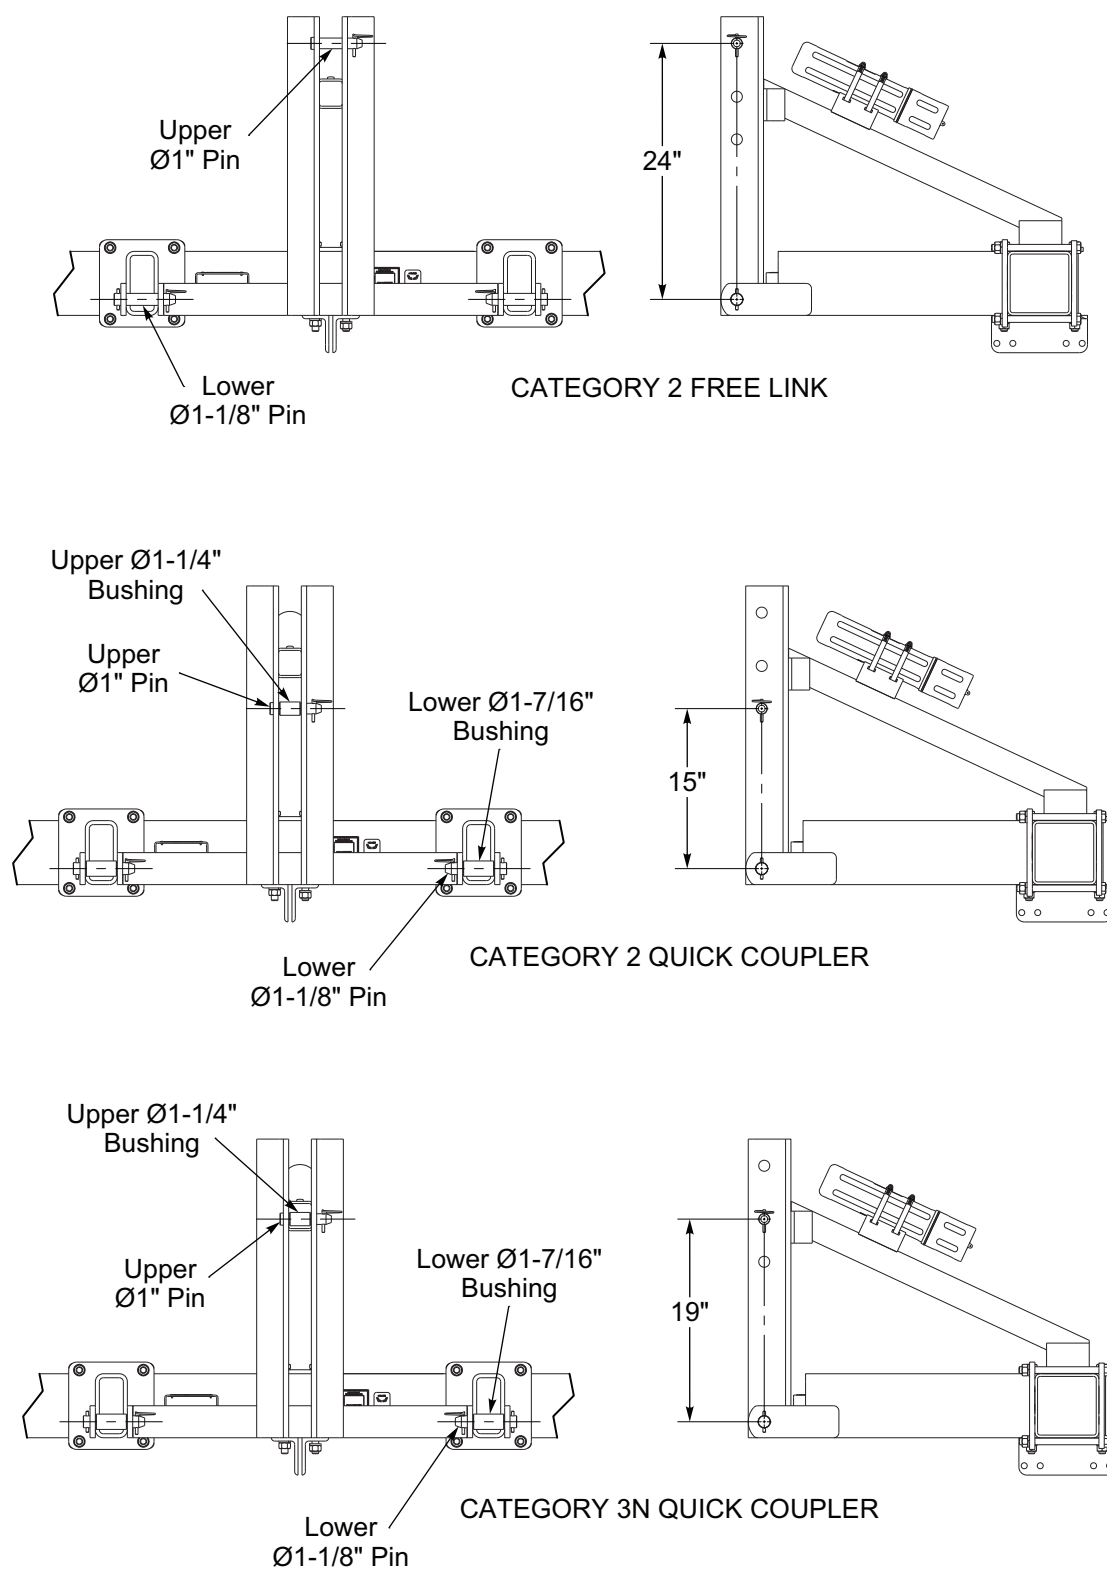

Figure 3-1: 3-PT Hitch Category Pin Positions
The Brillion Pulverizer is designed to be used with a 3-PT Hitch Category 2 Free Link or a Category 2 or 3N Quick Coupler. **See Figure 3-1.**
1. The Pulverizer is designed to be pulled by a Tractor equipped with a 3-PT Hitch Category 2 Free Link or Category 2, 3N Quick Coupler. **See Figure 3-1.** Be sure Tractor's Hitch Capacity is not exceeded by the Laden Mass of the Pulverizer. **Refer to Tractor Operator's Manual.**
1. Attach the Pulverizer to the Tractor with the appropriate size pins and bushings based on the 3-PT Hitch Category being used. **See Figure 3-1.**